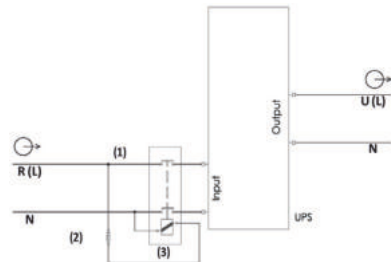

Fig.9: „Backfeed Protection“
- Connect the power cables to the input terminals respecting the order of the phase (R) and the neutral (N) indicated on the labelling of the device and in this manual. Pay particular attention when connecting the power cables to the input terminals and do not reverse the connection to the output terminals or vice versa. Non-compliance may result in faults. When there are discrepancies between the labelling and the instructions in this manual, then the labelling on the device applies.
- In accordance with the safety standard EN-IEC 62040-1, the installation must be equipped with an automatic backfeed protection system. For example a contactor which prevents the appearance of hazardous voltage or power on the UPS input line during a mains failure (see Fig. 9). The standard applies to both, individual units as well as parallel systems.
Fig. 9 shows: